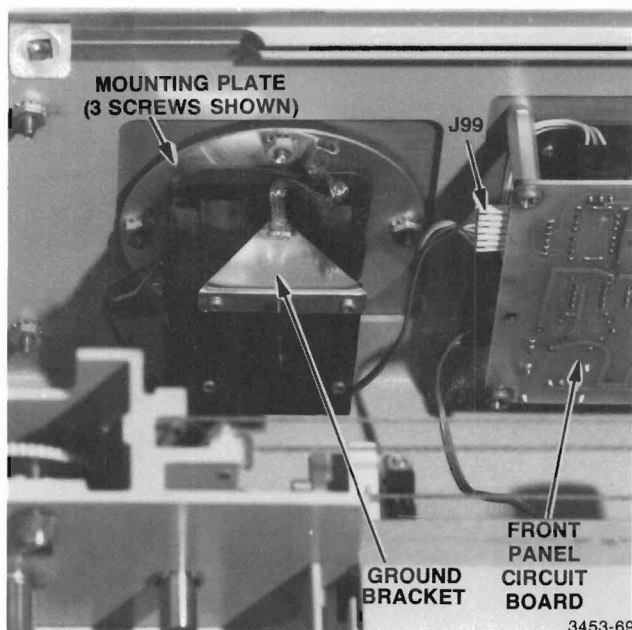

Figure 3-18. Joystick (rear view).
To remove the Joystick from the Plotter, use the following procedure (refer to Figures 3-18 and 3-19):
To replace the joystick to the Plotter, use the following procedure (refer to Figures 3-18 and 3-19):
5. Attach the grounding bracket to the joystick with two screws as shown in Figure 3-18. Do not overtighten these screws.
6. Mount the joystick assembly into the front panel with four nuts such that the cables emerge from the bottom and left sides (observing the rear of the joystick) of the joystick (see Figure 3-18 and 3-19). Be sure that the round plastic molding is still in place (see Step 4 of Joystick Removal earlier).